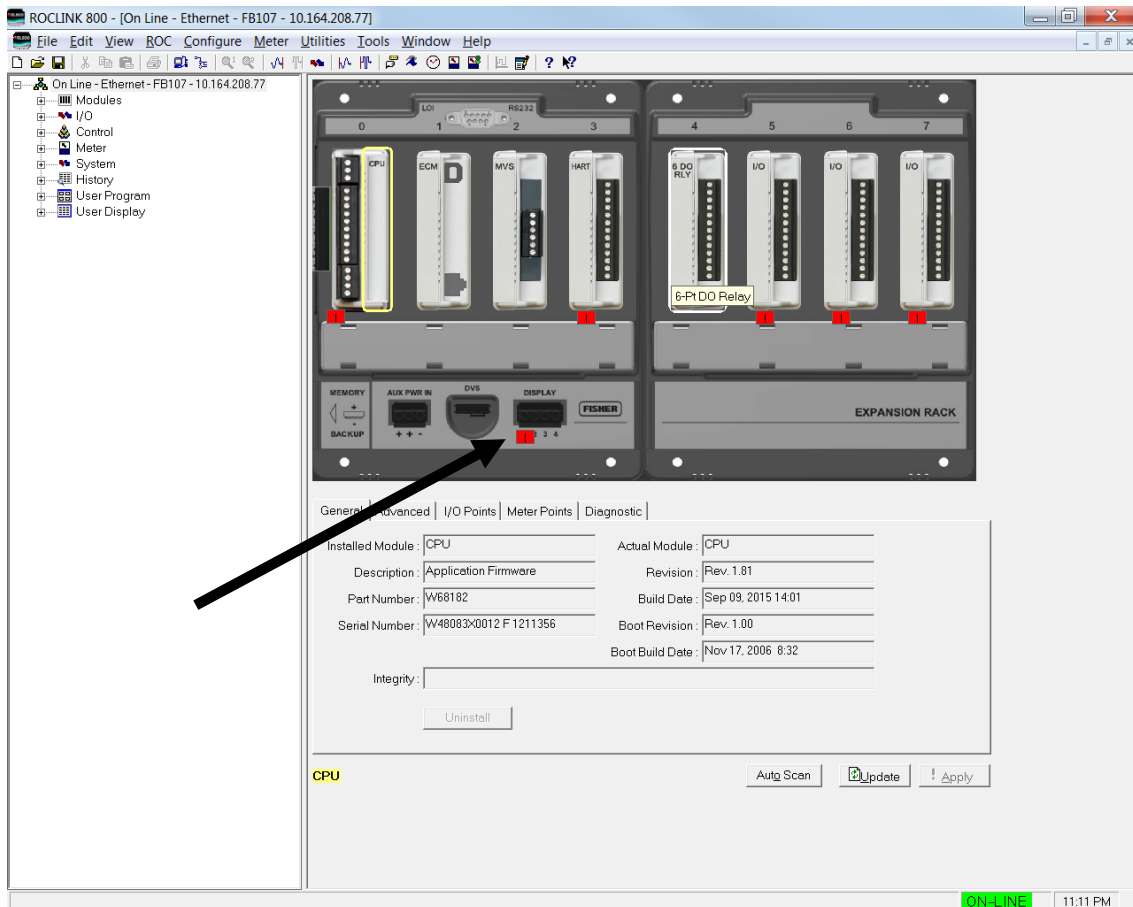

Figure 2-1. FB107 Graphic Display
The FB107 is factory-configured to accept the Touchpad. Until you connect the Touchpad to the FB107, the Display port displays an integrity (“red I”) error (see *Figure 2-1, Section 2-1*).
2. Plug the connector for the Touchpad into the Display port on your FB107 (see *Figure 2-1*). The Touchpad activates and displays the message “Waiting for Comms...”